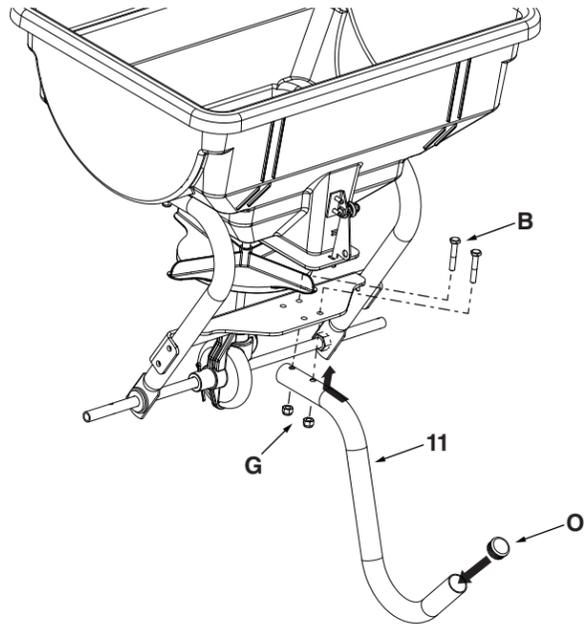

Figure 9
STEP 9: (SEE FIGURE 9)
- Attach the leg tube (11) to the frame using two 1/4 x 1-1/2" hex bolts (B) and 1/4" nylock nuts (G). Install a plug (O) into the leg tube (11). Tighten hardware.